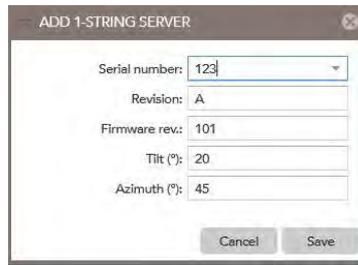

Figure 53: Add String Readers.
6. There should open a window according to Figure 53. Choose the right String Reader out of the drop-down menu. Orientate yourself on the documentary created by you.